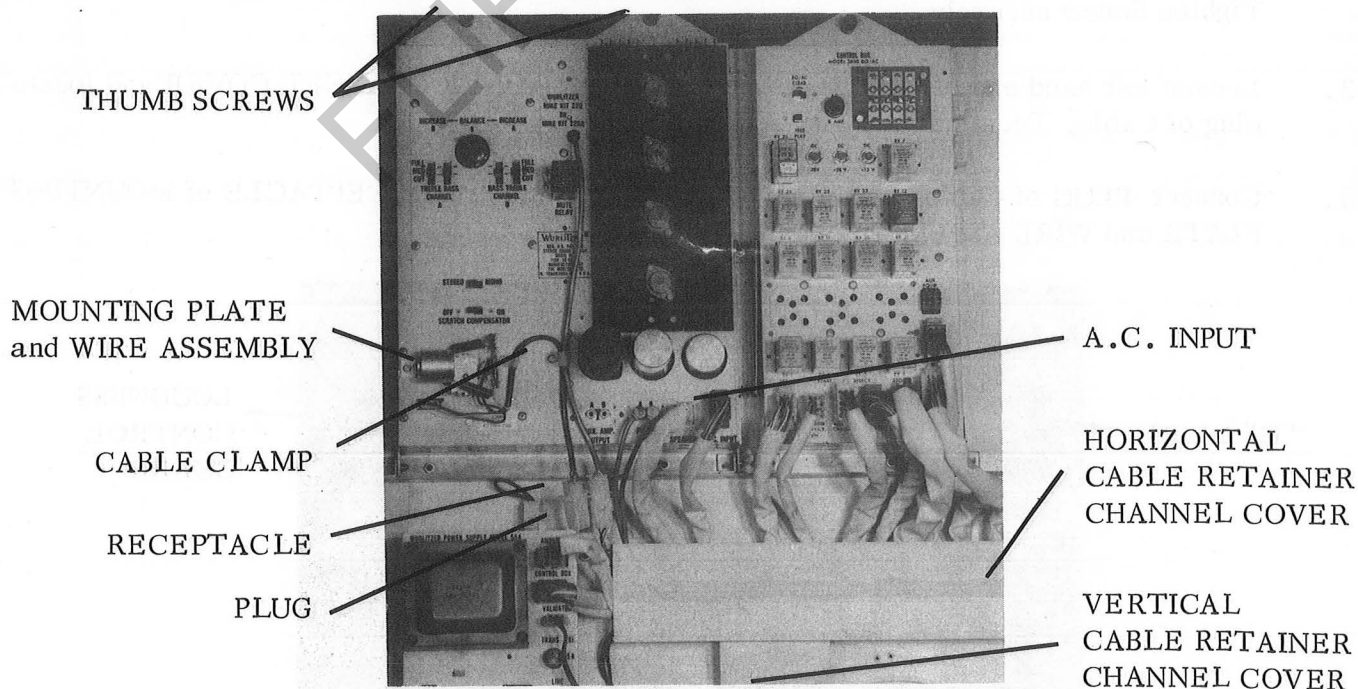

Figure 1.
1. Disconnect red receptacle from A.C. INPUT plug shown in Figure 1.
3. Position MOUNTING PLATE and WIRE ASSEMBLY as shown in Figure 1.
5. Loosen the two THUMB SCREWS shown in Figure 1. Swing Amplifier to the down position.
10. Return the Amplifier to vertical position and tighten THUMB SCREWS as shown in Figure 1.
11. Install CABLE CLAMP; Part No. 73804-4, on cable of MOUNTING PLATE and WIRE ASSEMBLY and secure to Amplifier with Screw, Part No. 74443-8, as shown in Figure 1. Tighten Screw securely.
13. Connect PLUG of Cable, Terminal and plug Assembly to RECEPTACLE of MOUNTING PLATE and WIRE ASSEMBLY as shown in Figure 1.
14. Secure left hand end of HORIZONTAL CABLE RETAINER CHANNEL COVER as shown in Figure 1.
20. Connect red receptacle, removed in Step 1, to A.C. INPUT plug as shown in Figure 1.